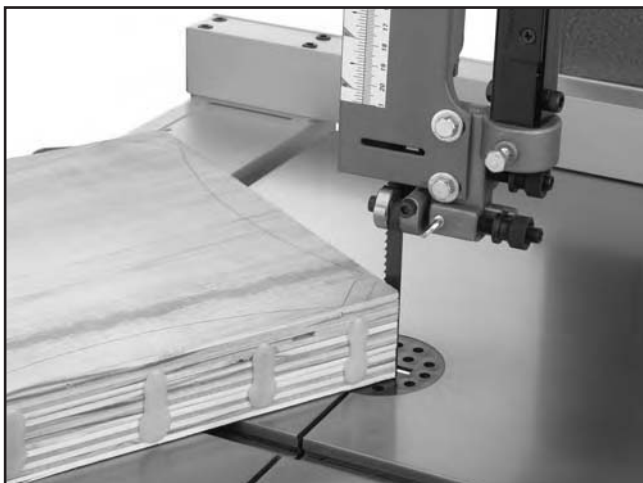

Figure 42. Typical stacked cut.
5. Cut the stack of pieces as though you were cutting a single piece. Follow your layout line with the blade kerf on the waste side of your line as shown in **Figure 42**.